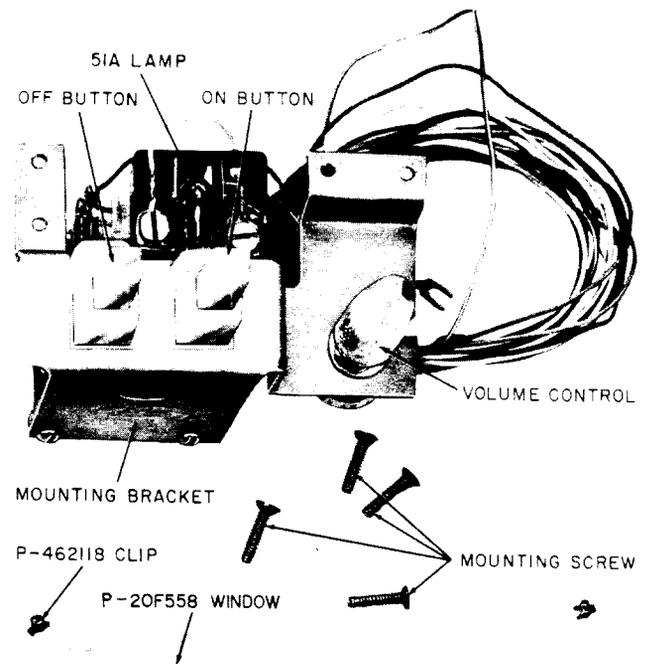

Fig. 8—613C Key
**2.24** The 613C key (Fig. 8), an on-off switch and volume control for speakerphone circuits similar to 1A, consists of a two-pushbutton (ON-OFF) key and a 5000-ohm potentiometer assembled on a